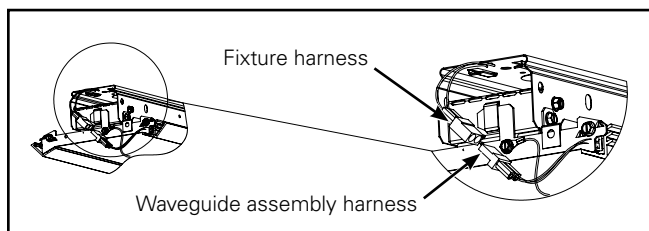

Figure 26.
8. Connect LED wire harness on each end of the waveguide assembly. (Figure 26.)